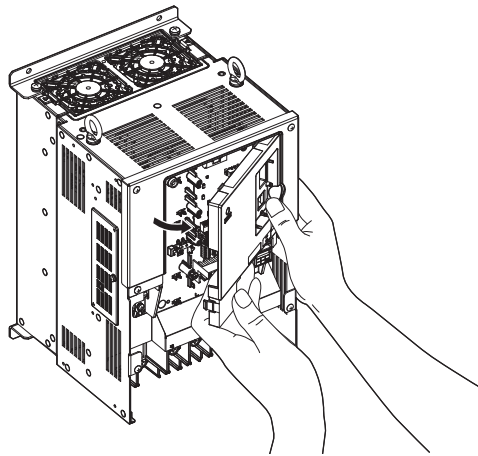

Figure 3.14 Remove the Front Cover
4. Unhook the left side of the front cover then swing the left side towards you as shown in Figure 3.14 until the cover comes off.